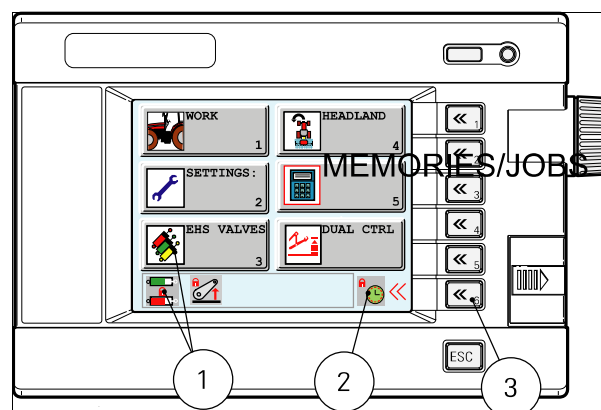

Fig. 15.
The red indicator light for the button (1) is lit and the locking icons are displayed on the Datatronic 3 (2) and (3). fig. 15